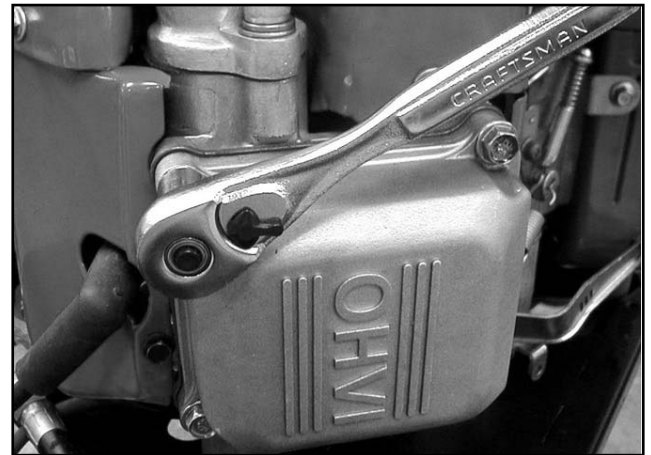

Figure 5-18. Install Valve Covers
3. Install valve covers with new gaskets, Figure 5-18.